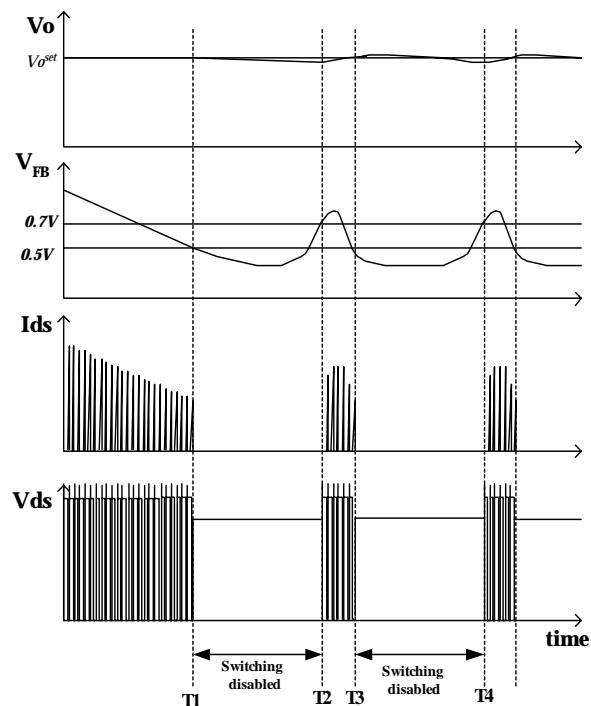

Figure 8. Waveforms of burst operation
5. Burst operation : In order to minimize power dissipation in standby mode, the FSDM07652RB enters burst mode operation. As the load decreases, the feedback voltage decreases. As shown in Figure 8, the device automatically enters burst mode when the feedback voltage drops below V_{BURL} (500mV). At this point switching stops and the output voltages start to drop at a rate dependent on standby current load. This causes the feedback voltage to rise. Once it passes V_{BURH} (700mV) switching resumes. The feedback voltage then falls and the process repeats. Burst mode operation alternately enables and disables switching of the power Sense FET thereby reducing switching loss in Standby mode.